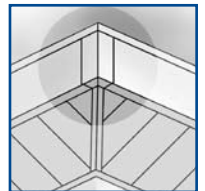

fig.32
B. To fabricate corner cap, cut piece of fascia 5 1/2” in length. Mark vertical centerline on back cut. Cut out 90° section of bottom flange from center, leaving 45° on each side. Using hand seamer or metal straightedge, fold along vertical centerline to form right-angle corner as shown. Fascia ends at corners are cut and installed as shown. Top edge of corner cap is punched with Snap Lock Punch. The corner cap is then hooked onto the bottom ends of the fascia, and the top is snapped into place in Undersill Trim (Fig.32).